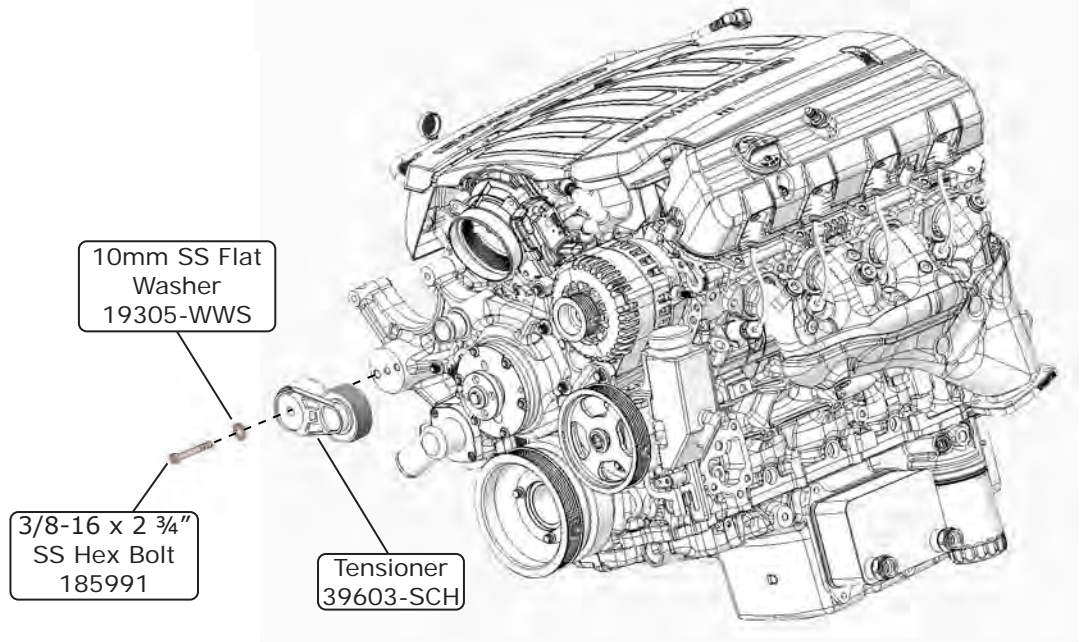

Figure 1
- Align tensioner pins with holes in casting as shown in Figure 1, below. Secure tensioner with 10mm washer and 3/8-16 x 2 3/4" SS hex bolt torqued to 21 +/-2 lb-ft (See Figure 1, below).
1. Install the A/C compressor as shown in Figure 1, below.